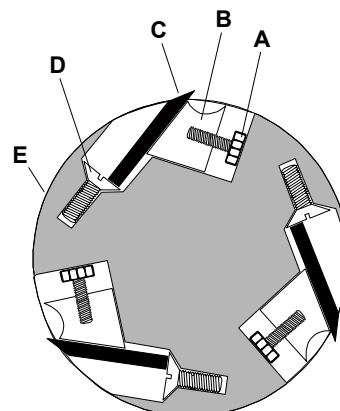

Figure 12
3. Carefully number each *knife blade* (C) with a magic marker to differentiate each.
4. Rotate the *cutterhead* (E) and determine the 12 o'clock position of knife number one. The 12 o'clock position is the highest point a blade will reach in the cutting arc (C, Fig. 12).